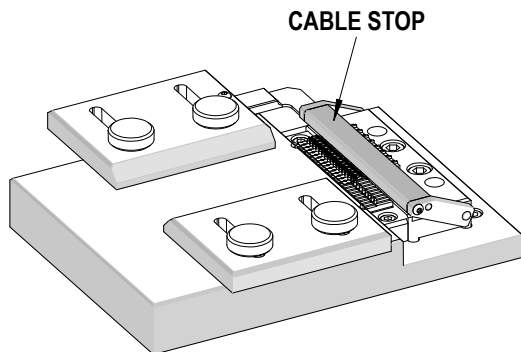

Figure 2-6
2. Lower the cable stop onto the connector. See Figure 2-6).